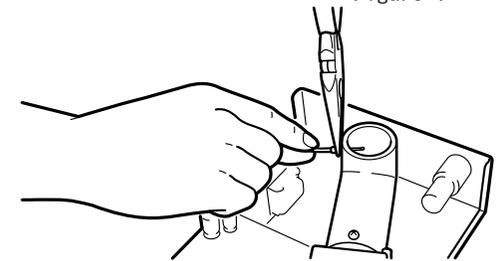

Figure 2
- ① Remove the cover.
- ② Disconnect the sensor connector from the printed wiring board and remove wire ties.
- ③ Slightly widen the eyelet connector with needle nose pliers and disconnect the sensor as shown in figure 2,3,4.